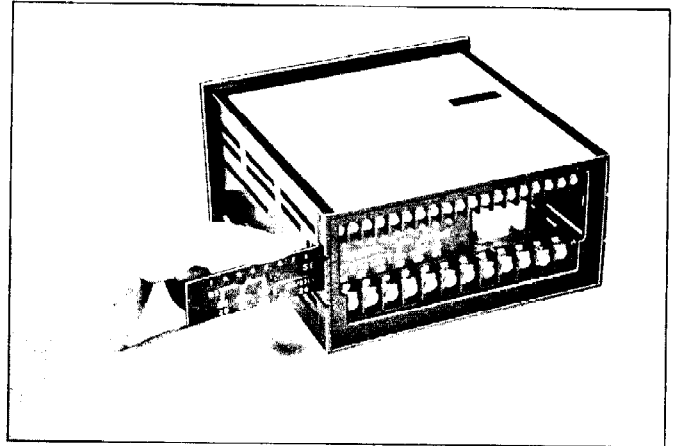

Figure 9-1. Removing the Relay Cover.
2. Slide the relay cover (see Figure 9-1) through the slot to expose the relay to be replaced (Relay K-1 for Output-1, left side; Relay K-2 for Output-2, right side).